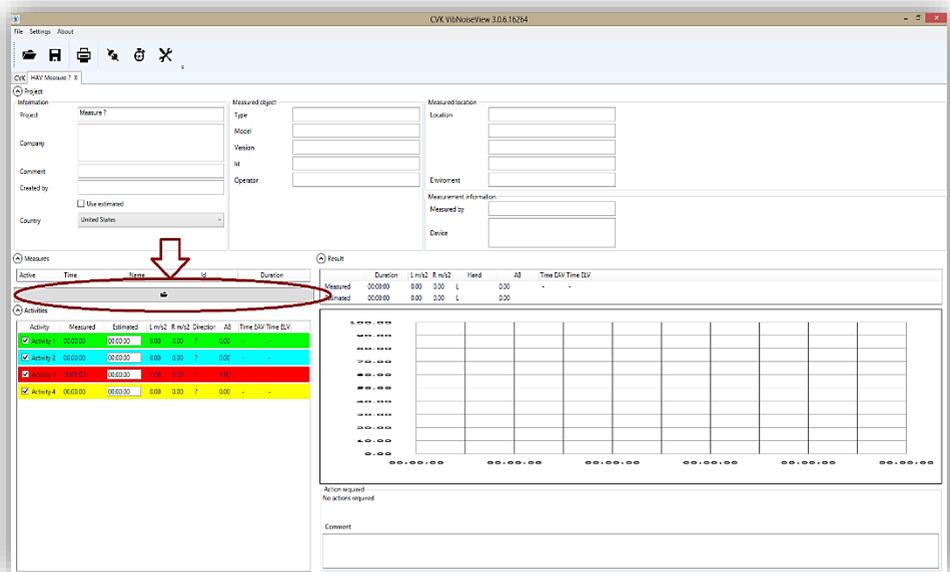

Figure 29: Open a saved measurement file
2. Click on 'Open button' in "Measures" section to open your saved measurement files. (see figure 29)